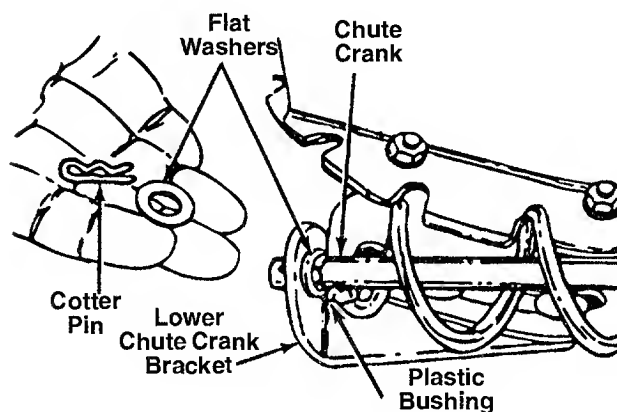

FIGURE 9
- Place one 3/8 ID flat washer on the end of the chute crank, then insert the end of the crank into the eye hole in the plastic bushing in the chute crank bracket. See figure 9.